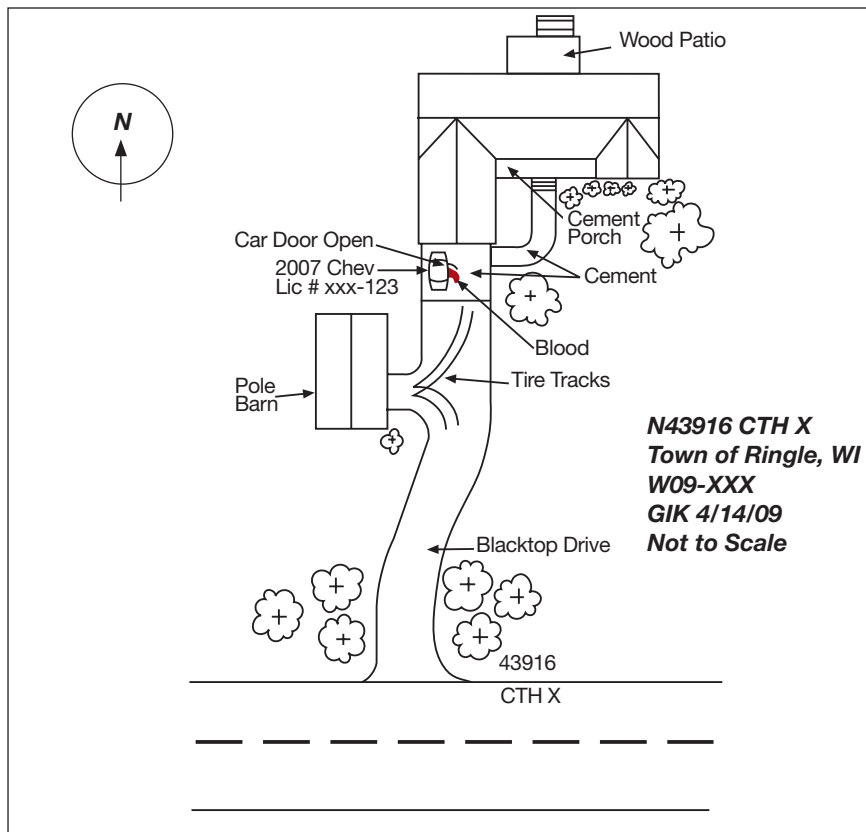

Fig. 4-1
- A.** Overview sketch – consists of a bird's-eye-view or floor plan sketch of the scene. This is the most common type of sketch and consists of items on the horizontal plane (see Figure 4-1).